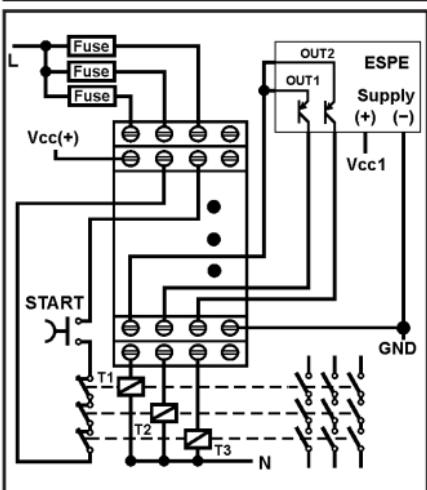

Fig. 7: ESPE: 2 uscite PNP a 2 fili /
- *ESPE with two PNP two-wires outputs (e.g. optocoupled PNP-type)*: connect both emitter outputs to the S21 terminal and the collector outputs to the S11 and S22 terminal, leaving S12 not connected (fig. 7, max. Safety cat. 4).
In Fig. 7 and 8 are shown the connections of ESPE with 2 two-wires